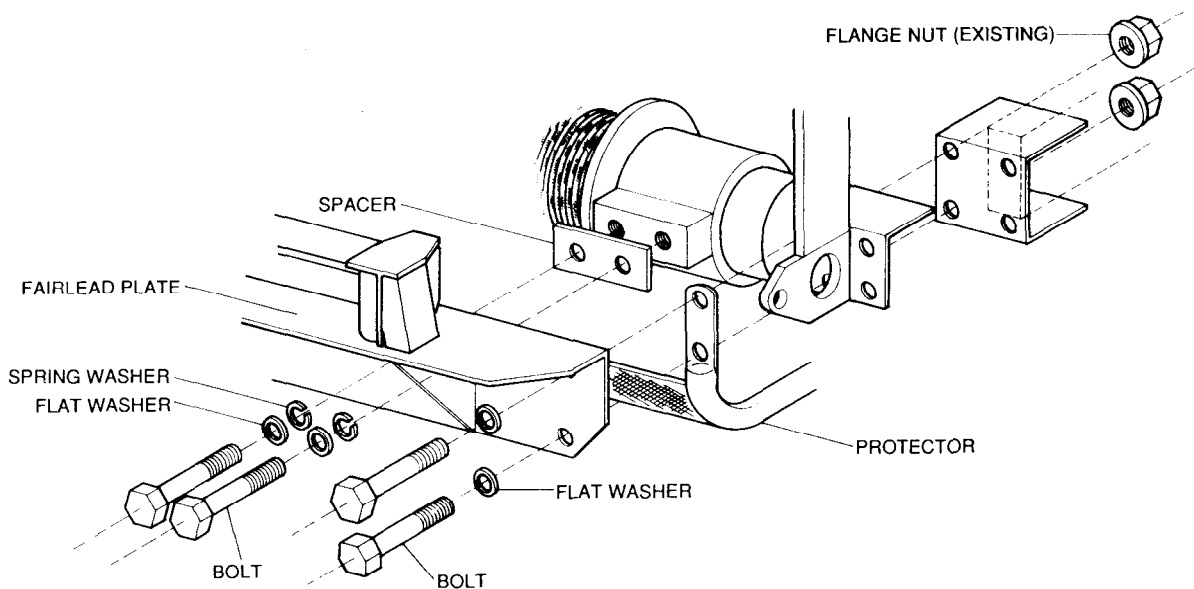

FIG 3 - FRONT WINCH FAIRLEAD PLATE MOUNTING
- e. On variants with winch, fit the spacer (item 7 from Table 1), between the winch fairlead plate and the winch, as shown in Fig 3. Use new mounting bolts and washers (item 3, 8 and 9 from Table 1) and ensure that Loctite 271 is applied to the bolt threads.
- f. Secure the centre bumper or winch fairlead plate using new mounting bolts (item 8 from Table 1) and the existing nuts and washers.